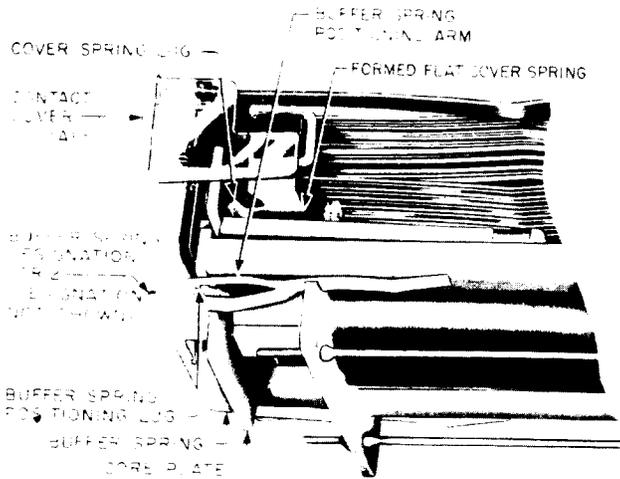

Fig. 1—AL Type Relay Showing Contact Cover and Buffer Spring
(b) The buffer springs for the AL-type relays are furnished in two thicknesses, 0.012 inch and 0.016 inch. In most cases where a buffer spring is required, the 0.012-inch thick spring is adequate for meeting the electrical release timing requirements but in a few cases use of the 0.016-inch spring is necessary. For identification, the 0.012-inch thick spring (P-16A279) is stamped 1 and the 0.016-inch thick spring (P-16A070) is stamped 2 in the position indicated in Fig. 1.
- 2.04 Contact Cover Tightness:** Fig. 1(A)—The contact cover shall be held firmly in place.